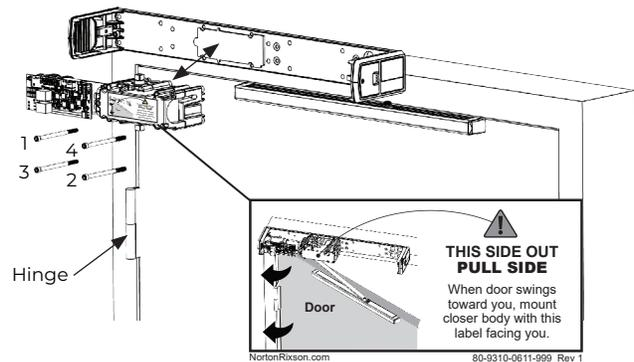

Figure 8 Right Hand Shown
1. Using four (4) screws provided, install the operator body to the backplate. (Figure 8)
- Tighten screws in a cross pattern until all four (4) screws are tight. (Figure 8)
- "This side out PULL SIDE" label is facing away from the backplate. (Figure 8)